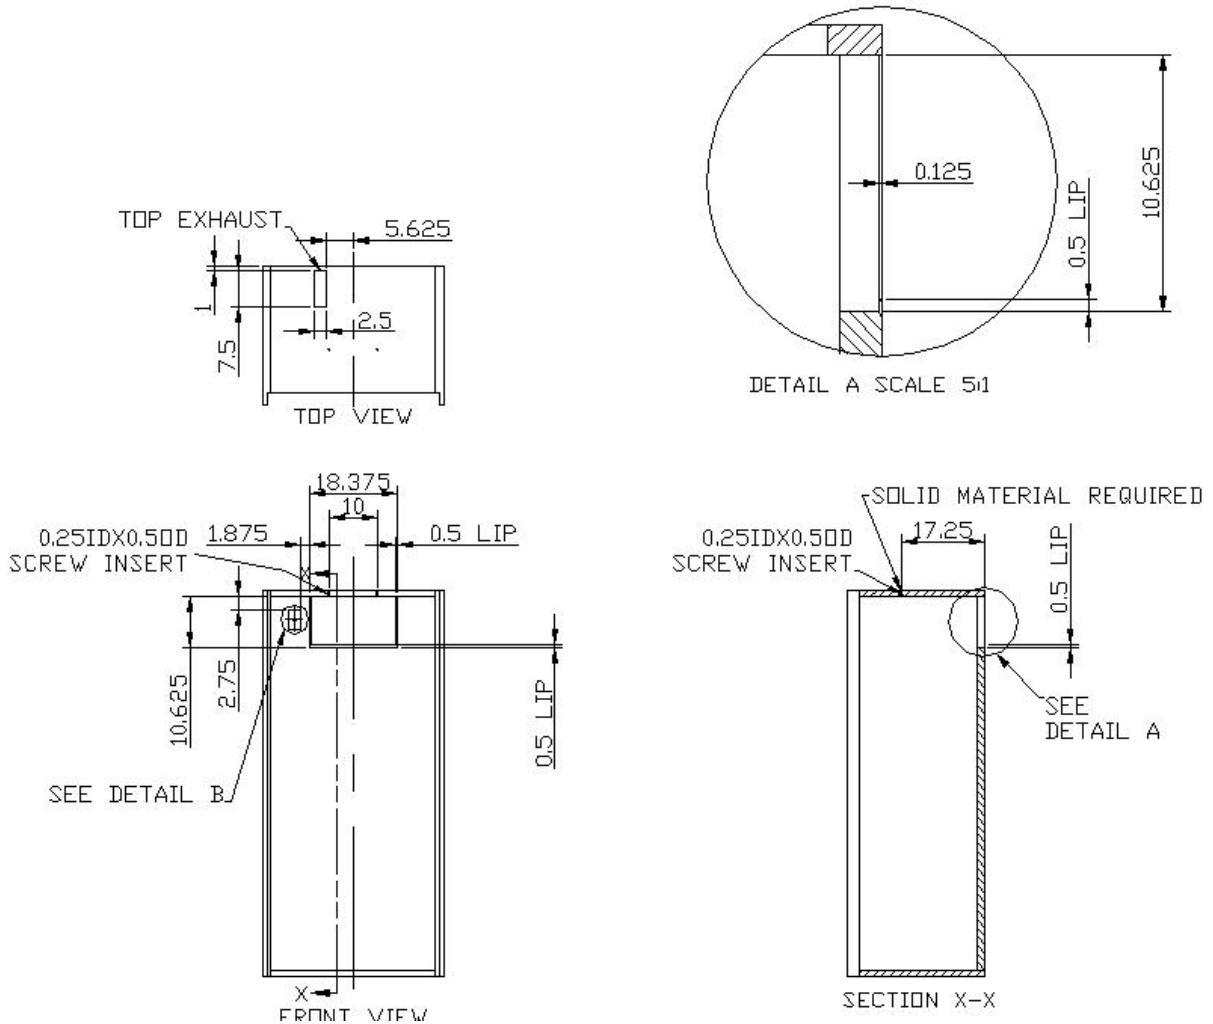

Fig. 2.1 CUTOUT AND HOLE DIMENSIONS
- Cut a rectangular inside opening at the rear of the cabinet with the 1/4" clearance inwards to the width and height of the cooling unit. By not going through, leave 1/2" lip inside at the wall to place the gaskets (see Fig. 2.1 & 2.2).
- If top exhaust installation, cut another rectangular opening at the top of the cabinet to the length and width of the top exhaust (see Fig. 2.1 & 2.3).
- Install 2 pieces of 1/4" ID wood thread inserts at the ceiling (see Fig. 2.1 & 2.4).